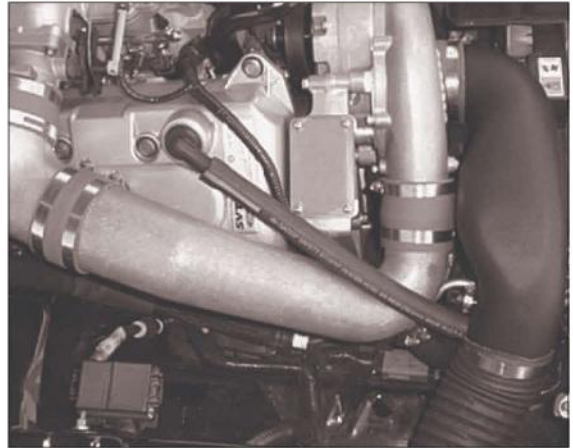

Fig. 11-a
- C. Install the aluminum discharge tube onto the throttle body. Slide the 3-1/2" sleeve and #56 clamps onto the round end of the tube. Next, connect the supercharger to the aluminum tube using the long discharge tube/bypass valve assembly. Align the bypass valve, all hoses and, tighten all clamps. If necessary, trim the 1" bypass hose lengths for best fit. (See Fig. 11-a.)